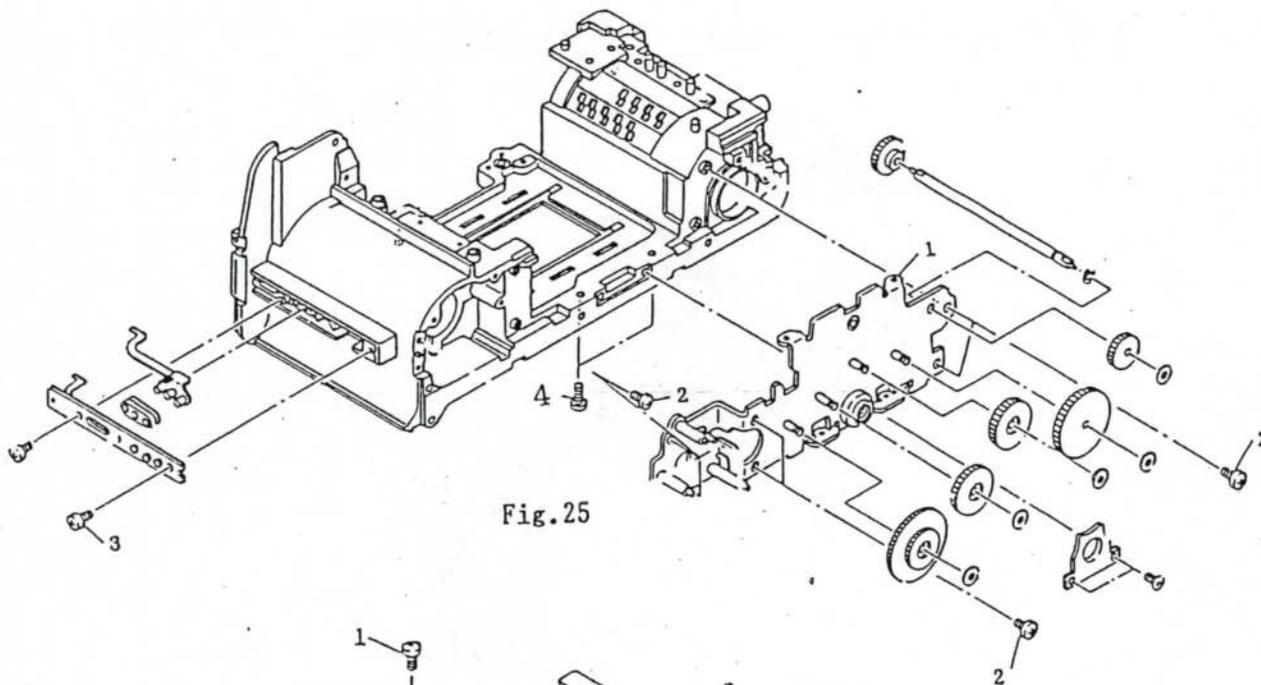

Fig. 25
2. Bottom base plate (Fig. 25)